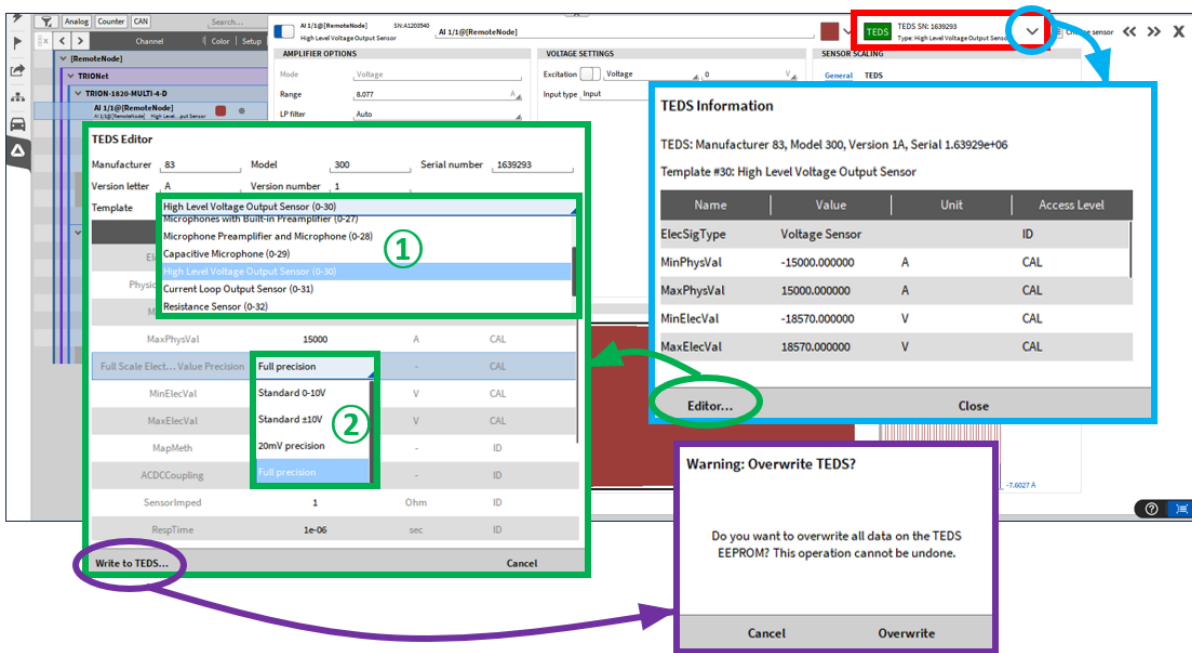

Fig. 7.205: Detailed Channel Settings with TEDES interface and TEDES editor
A detailed channel setting can be seen in Fig. 7.205. Depending on the type of sensor some settings might vary. The settings from the TEDS can be seen here and some settings can be adjusted manually, like the range. By clicking on the shown TEDS serial number, marked red in Fig. 7.205, all the TEDS information and settings can be seen (see blue frame in Fig. 7.205).
By clicking on “Editor” (see green circle in Fig. 7.205) the TEDS editor can be opened (see green frame) which offers the possibility to edit the stored data on the TEDS chip. It is possible to choose between a set of templates (see ① in Fig. 7.205) or to change the information stored on the TEDS chip manually (see ② in Fig. 7.205). When all changes are finished the information can be written to the TEDS chip, by clicking on “Write to TEDS” (see purple circle in Fig. 7.205). A window will pop up which asks for confirmation that the data should be written to the TEDS chip.
TEDS detection can also be disabled in the detailed settings by clicking on the green TEDS button (marked green in Fig. 7.205). This button has different colors depending on the state, which will be explained here: